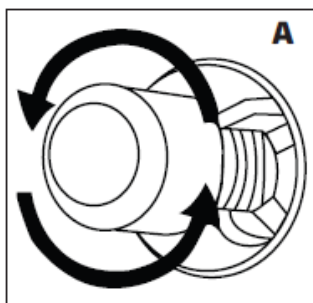
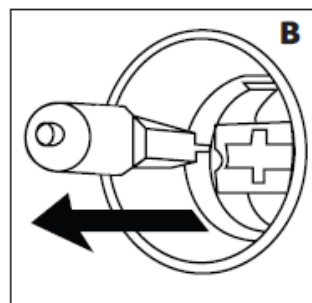

Figure 27
Figure 28
3. Then remove the oven lamp by turning it (see figure 27) if it is type A, or by pulling it (see figure 28) if it is type B.